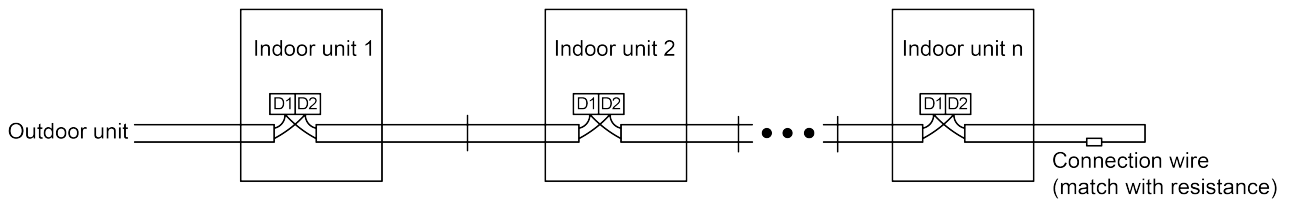

Fig. 5.5
- (4) Secure the communication line with the wire clamp on the electric box.
- (5) In order to ensure the reliability of communication between IDU and ODU and the communication among each IDU, add a matched resistance (supplied in a package before ex-factory) on the wiring board of the last indoor unit in a series connection. The matched resistance should be connected in parallel between terminal screw D1 and D2, as shown in Fig. 5.5